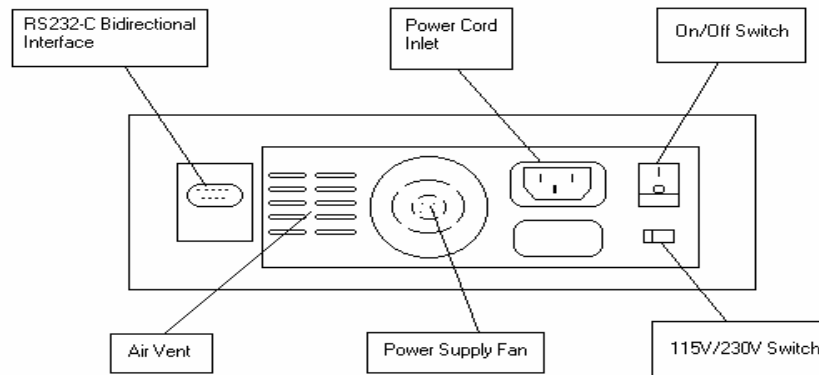

Figure-2 Back of **2100** and **2100UV**
4. Select either **230V** or **125V/115V** on the voltage selector switch on the back of the **2100** and **2100UV** shown in Figure-2, to match your local main voltage supply.